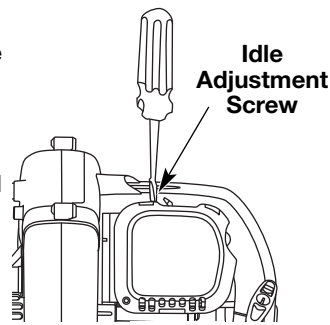

Fig. 30
The idle speed of the engine is adjustable. An idle adjustment screw is between the air filter cover and the engine starter housing (Fig. 30).
2. Release the throttle trigger and let the engine idle. If the engine stops, insert a small phillips in between the Air Filter Cover and the Engine Cover (Fig. 30). Turn the idle speed screw in, clockwise, 1/8 of a turn at a time (as needed) until the engine idles smoothly.